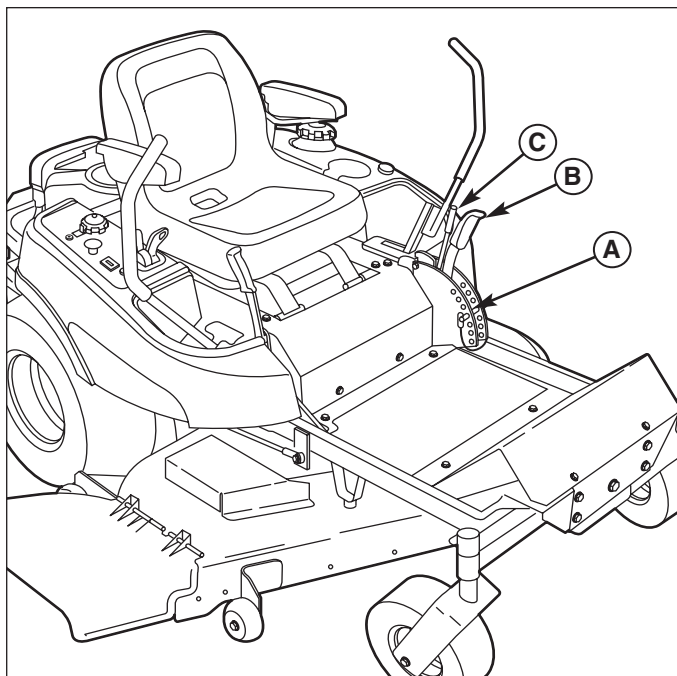

Figure 22. Cutting Height Adjustment
The cutting height adjustment pin (A, Figure 22) controls the mower cutting height. The cutting height is adjustable between 1-1/2" (3,8 cm) and 4-1/2" (11,4cm). Pulling the lever back fully locks the control in transport position.
1. Pull the adjustment lever (B, Figure 22) back fully until it locks in transport position.
2. Remove the cutting height adjustment pin (A) and insert it into the desired hole.
3. Pull back on the adjustment lever (B), squeeze the smaller transport release lever (C), and allow the lever to move forward until it is supported by the cutting height adjustment pin (A).